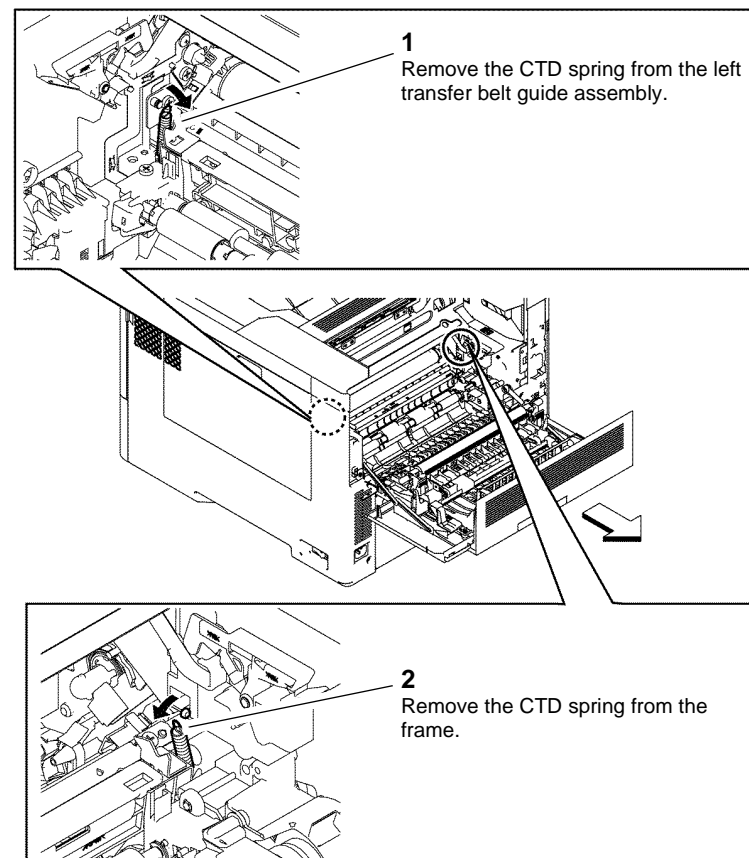

Figure 1 Remove the CTD springs
4. Remove the color toner density (CTD) springs, Figure 1.